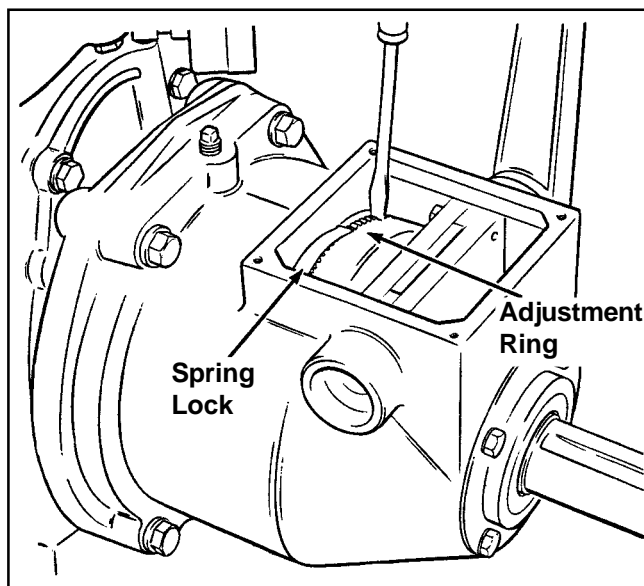

Figure 12-2. Adjusting Clutch.
1. Release clutch and remove nameplate. Using a large screwdriver, turn adjusting ring clockwise, one notch at a time, until firm pressure is required to engage clutch. See Figure 12-2. Adjusting ring is spring loaded and does not have to be loosened before adjustment is made. Do not attempt to pry or force spring lock away from the ring.